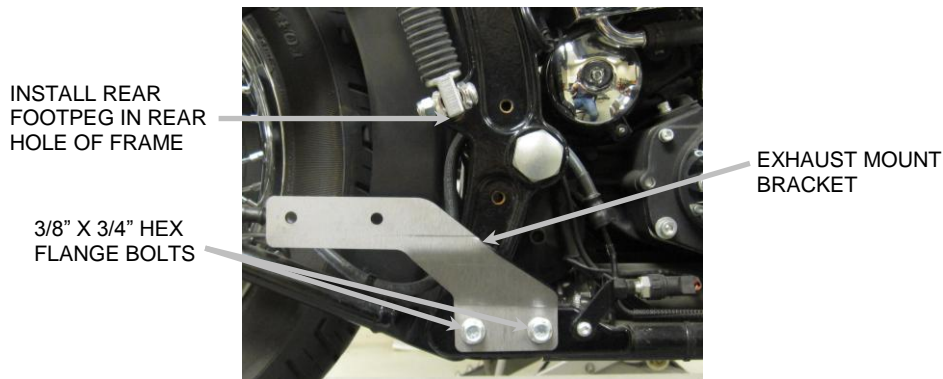

FIGURE 2
9. Remove the plastic hole plugs from the two lower holes in the frame and install the supplied exhaust mount bracket using the supplied 3/8" x 3/4" hex flange bolts. Tighten the bolts to factory specifications. See **FIGURE 2**.